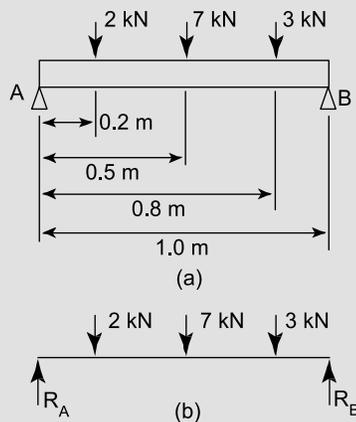

Figure 5.11
**Problem 6.** A beam is loaded as shown in Figure 5.11.
A beam supported as shown in Figure 5.11 is called a simply supported beam.
where  $R_B$  is the force supporting the beam at  $B$ , as shown in Figure 5.11(b).